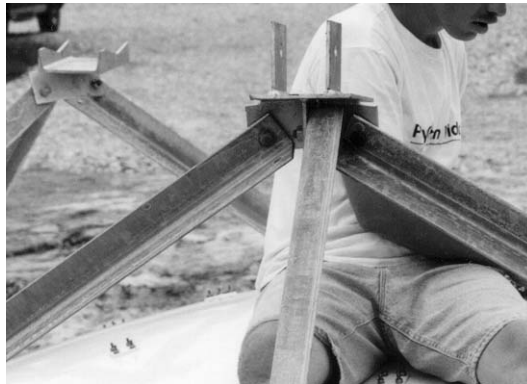

Figure 39
Step 7 Loosely connect support angles (P/N 49438) from plates E and C to angle (P/N 49436) from tee plate D to elevation axis bracket (P/N 300749) as shown in Figure 39.